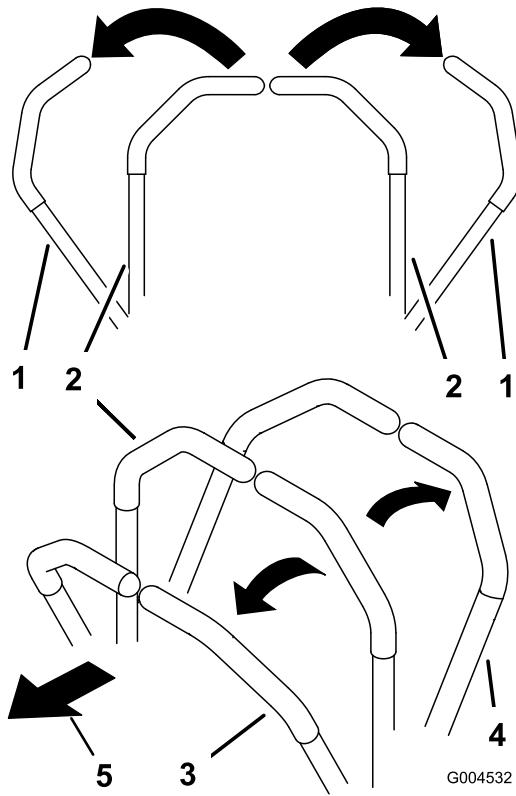

Figure 24
- To move straight forward, slowly push the motion-control levers forward (Figure 24).
- To move straight rearward, slowly pull the motion-control levers rearward (Figure 24).
- To turn, slow the machine by pulling back on both levers and then push forward on the lever on the opposite side from which you want to turn (Figure 24).